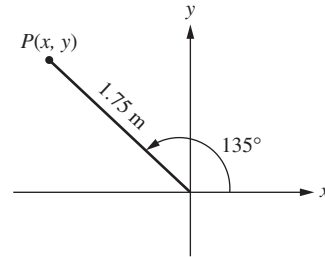

Figure P3.11 A one-link planar robot for problem P3-11.
- 3-11.** A one-link planar robot moves in the x - y plane as shown in Fig. P3.11. For the given l and θ , find the position $P(x, y)$ of the tip.